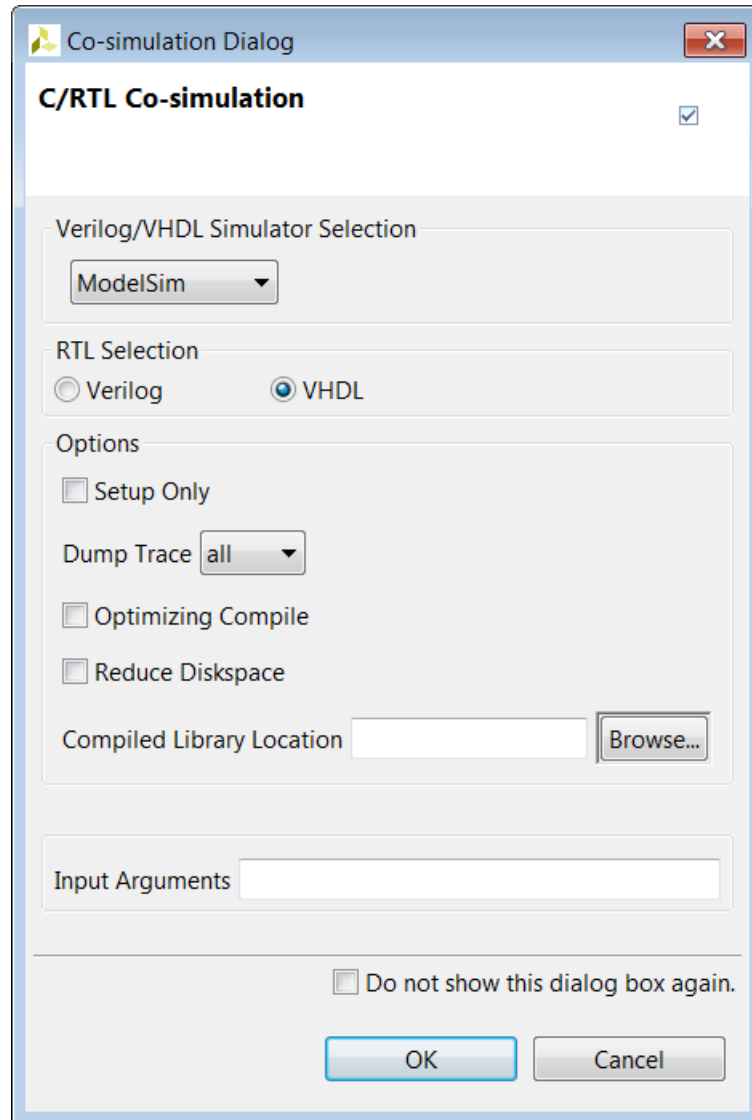

Figure 8-16: Cosimulation Dialog Box for Lab 3
- c. Activate the **Dump Trace** drop-down menu and select the **all** option, to have the options shown in Figure 8-16.